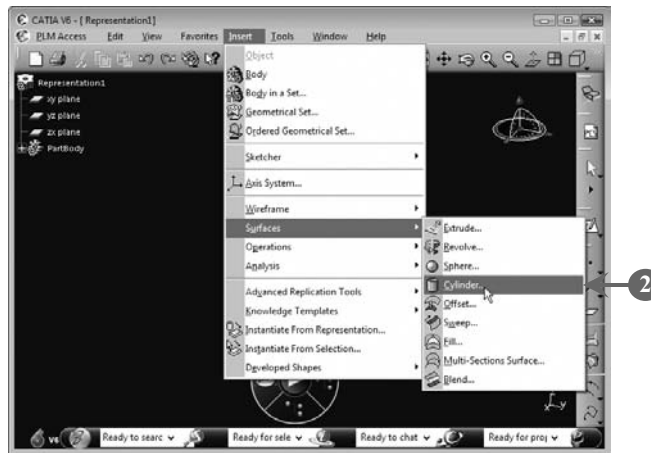

FIGURE 5.46
2. *Select* **Insert**>**Surfaces**>**Cylinder** from the menu bar to create the desired cylindrical surface, as shown in **Figure 5.46**: